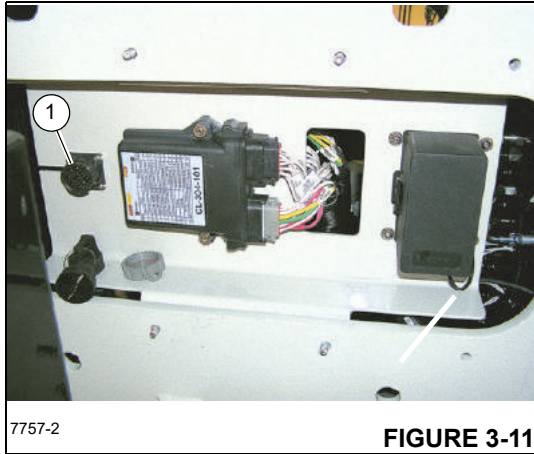

FIGURE 3-11
The Main Load Chart Calibration and the Calibration Chart are downloaded to the RCL system using a laptop computer connected to the crane control system through the Diagnostic Connector (1, Figure 3-11). Contact Manitowoc Crane Care for the required software and cables for the crane interface.
1. Connect the laptop to the Diagnostic Connector (1, Figure 3-11) with the interface cable.